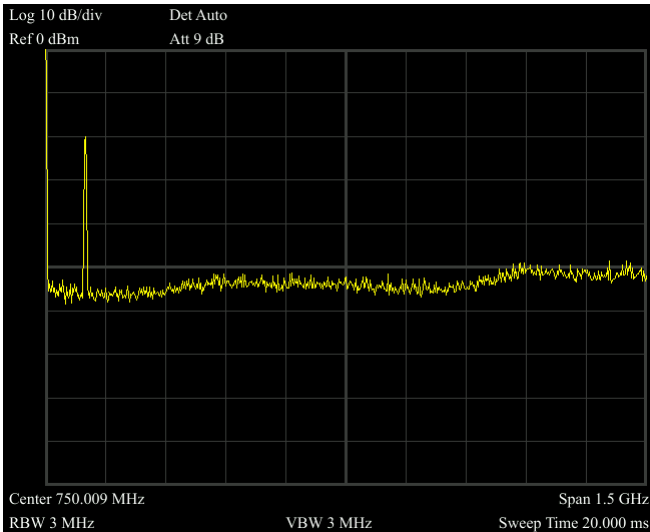

Figure 5-8 Full Span
- 1) Press “Preset” to reset the spectrum analyzer to factory settings. The Spectrum analyzer will display the spectrum from 9kHz to the maximum span width. The signal generated will display as a vertical line at 100MHz. Refer to Figure 5-8.